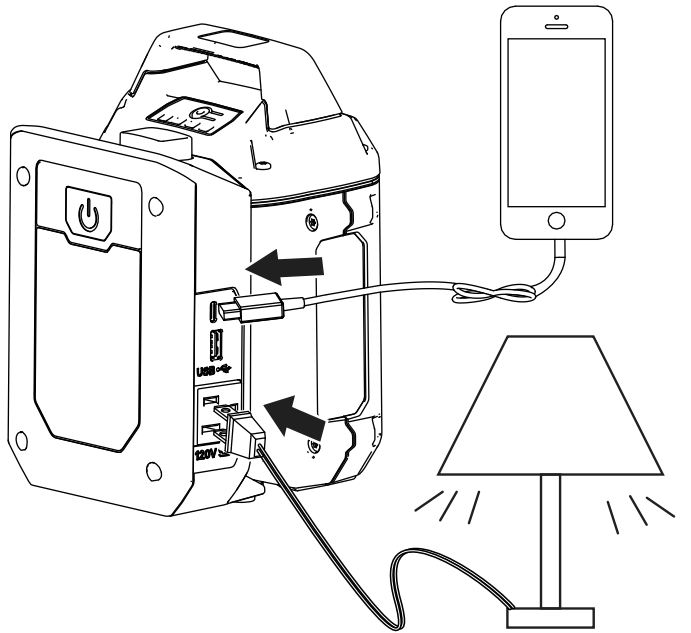

Figure 5
3. Connect your device to a USB port or the AC receptacle (Figure 5).